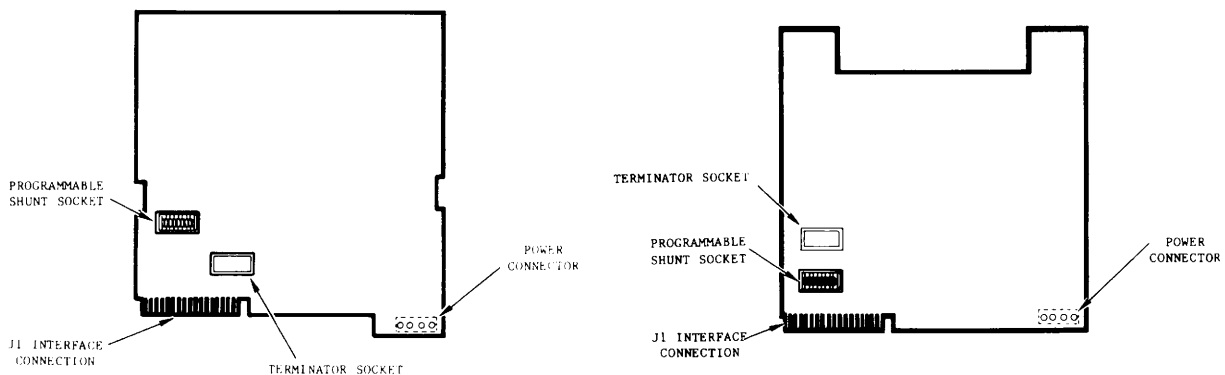
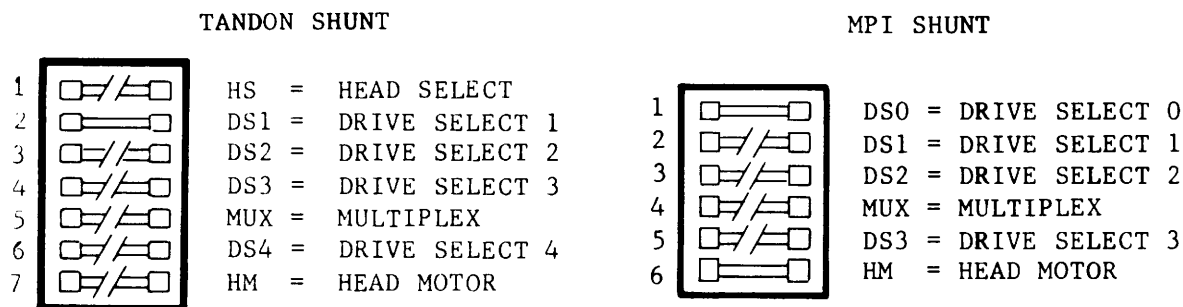

Figure 4-33. Floppy Drive Programmable Shunt Location
Figure 4-34. Floppy Drive Shunt Identification
One of two floppy drives can be used, Tandon or MPI. Only the System Floppy Drive A has the terminator chip installed (see Figure 4-33 for location). Check the System Drive A and the optional Floppy Drive B (if any) for correct configurations. If a Floppy diskette and a Winchester drive are used, both must have the terminator chip installed.
Both the System Floppy Drive A and the Optional Floppy Drive B (if used) must have the 14-pin Programmable Shunt jumper pins 2 to 13 (DS1) installed. All remaining jumpers are removed. The Floppy's Programmable Shunt is installed in a 16-pin I.C. socket. ENSURE THAT THE SHUNT'S PIN 1 IS INSTALLED IN PIN 1 OF THE SOCKET. See Figure 4-34 for Floppy Shunt Jumper Identification and Figure 4-33 for the Programmable Shunt Socket location.
Both the System Floppy Drive A and the Optional Floppy Drive B (if used) must have the 12-pin Programmable Shunt jumper pins 1 to 12 (DS0) and 6 to 7 (HM) installed. All remaining jumpers are removed. The Floppy's Programmable Shunt is installed in a 14-pin I.C. socket. ENSURE THAT THE SHUNT'S PIN 1 IS INSTALLED IN PIN 2 OF THE SOCKET. See Figure 4-34 for Floppy Shunt Jumper Identification and Figure 4-33 for the Programmable Shunt Socket location.